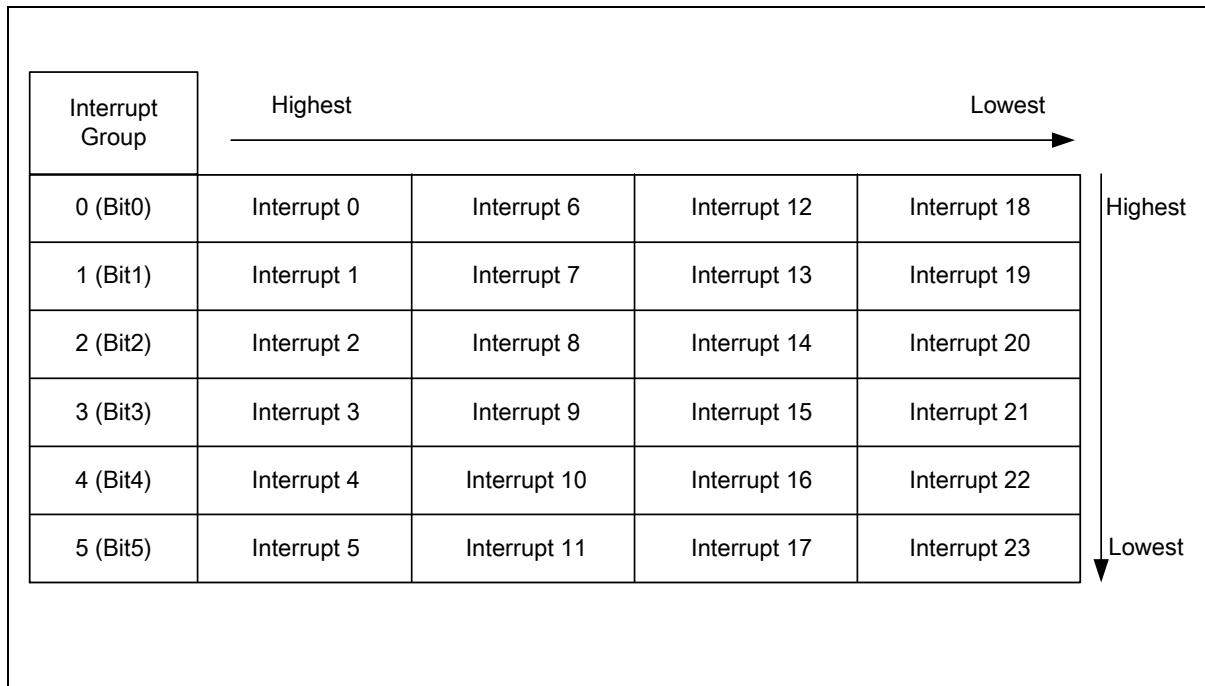

Figure 13. Interrupt Group Priority Level
Figure 13 introduces interrupt groups and their priority levels that is available for sharing interrupt priority. Priority of a group is set by 2 bits of Interrupt Priority (IP) registers: 1 bit from IP and another 1 bit from IP1.